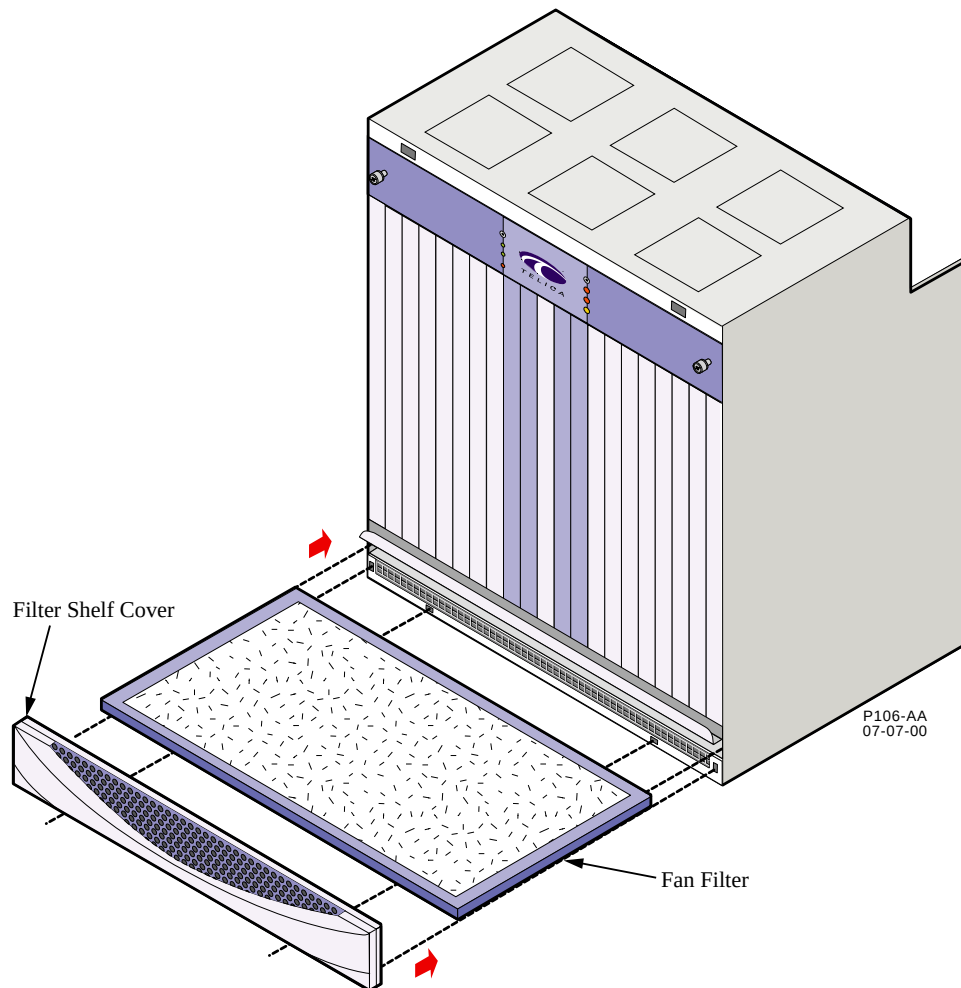

Figure 1. Fan Filter Removal and Replacement (P106-AA)
5. Remove the fan filter grill cover from the front bottom of the chassis as shown in Figure 1.
6. Carefully slide the old fan filter out of the chassis as illustrated in Figure 1. Try to prevent loose debris from being pulled up through the chassis.
10. Insert the new fan filter into the chassis, as illustrated in Figure 1.
11. Attach the fan filter grill cover to the front bottom of the chassis as shown in Figure 1.
2. Right-click the switch name in the switch status panel or double-click the switch to select it for the main panel and then right-click the switch name. Select *View, Stats* and click *Refresh* near the bottom of the panel for latest information. See Figure 1.